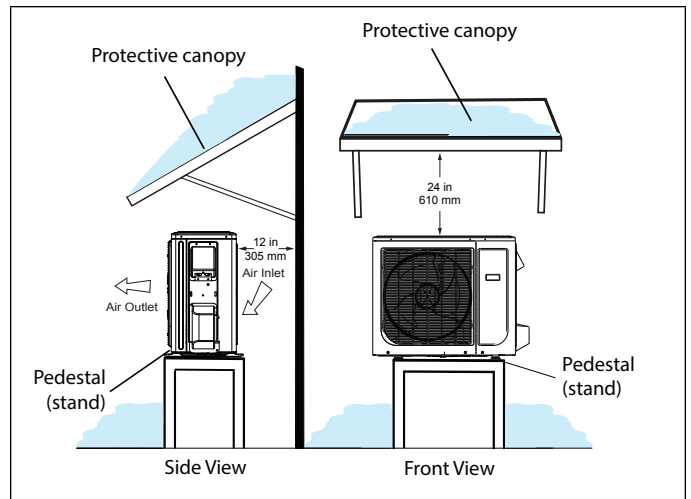
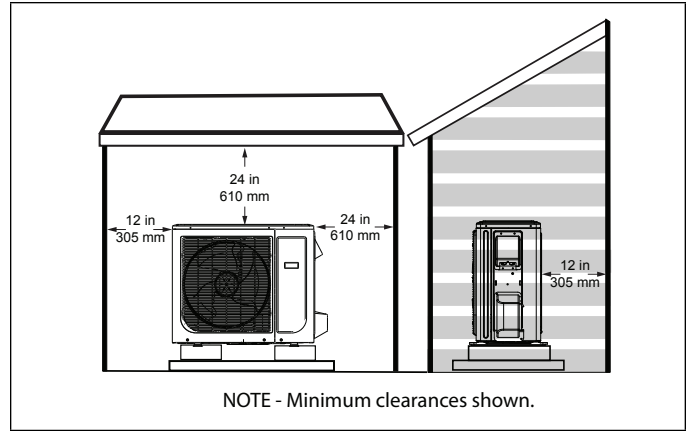

Figure 24. Outdoor Unit on Pedestal (Stand) and Protective Canopy
Figure 29. Dog House-Style Shelter
- If the outdoor unit is subjected to prolong exposure to direct sunlight with temperatures over 100°F (38°C) a canopy is recommended as illustrated in “Figure 24. Outdoor Unit on Pedestal (Stand) and Protective Canopy” or “Figure 29. Dog House-Style Shelter” on page 18.
- Place unit away from overhanging roof lines which would allow water or ice to drop on, or in front of, coil or into unit. Construct a canopy as illustrated in “Figure 24. Outdoor Unit on Pedestal (Stand) and Protective Canopy”
- Outdoor unit can be installed in a dog house style shelter as illustrated in “Figure 29. Dog House-Style Shelter”